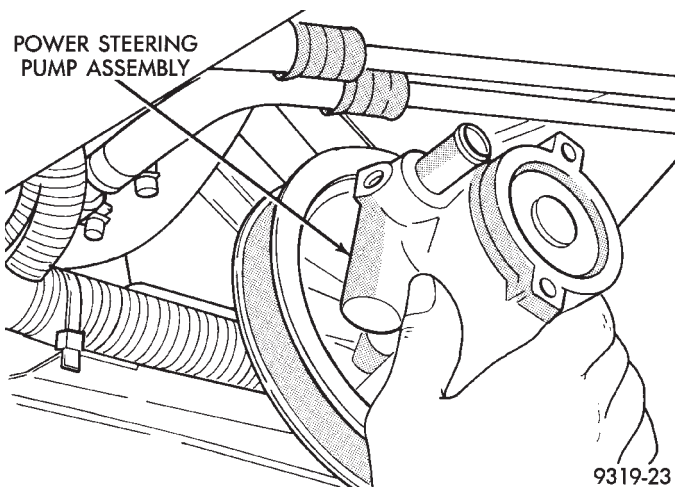

Fig. 20 Power Steering Pump Removal And Installation
(9) Remove the power steering pump and the drive pulley as an assembly from the vehicle. Power steering pump is removable from the bottom of engine compartment (Fig. 20).
(10) Transfer the required parts from the removed power steering pump, to the replacement power steering pump.
(1) Install power steering pump back in vehicle from the bottom of the engine compartment (Fig. 20).